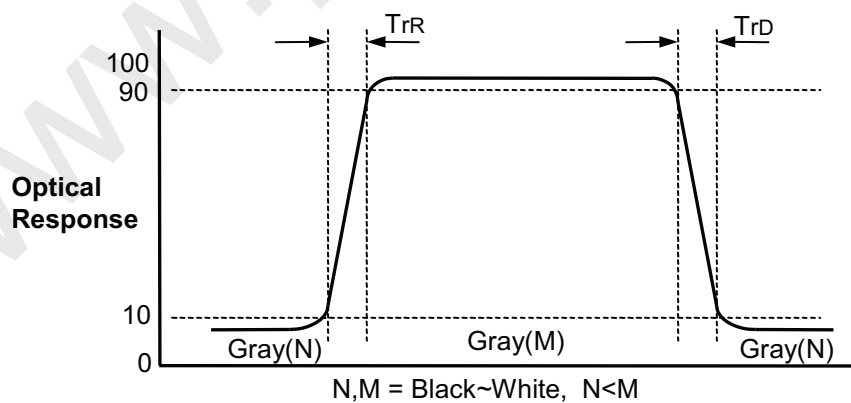

FIG.3 Response Time(G to G)
4. Response time is the time required for the display to transit from any gray to white (Rise Time,  $Tr_R$ ) and from any gray to black (Decay time,  $Tr_D$ ). For additional information see the FIG. 3.